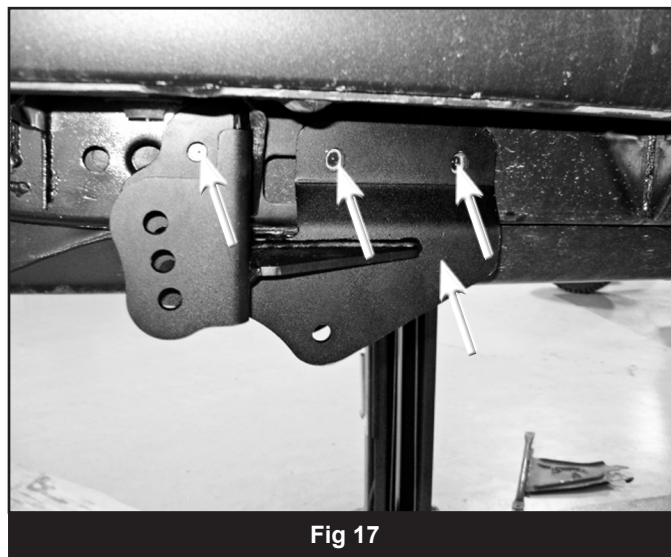

Fig 17
10. Temporarily install the new bracket passenger's side control arm bracket (01986) with the new 12mm x 35mm bolt (Fig 17).